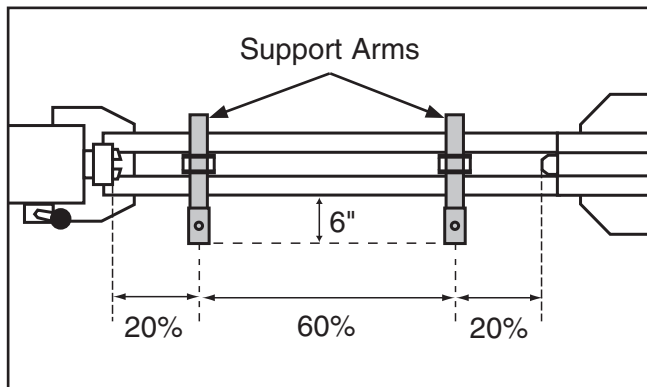

Figure 7. Attachment locations for support arms.
3. Adjust support arm assemblies so they are centered on points measuring 20% of distance across lathe bed from headstock to tailstock (see **Figure 7**). Front of support arms should extend beyond front of lathe bed by about 6".